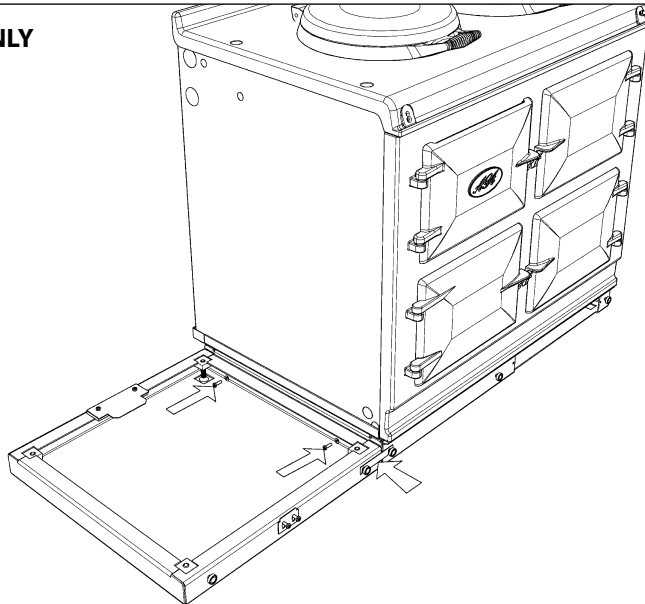

Fig. 10.5
8. Attach Module plinth to the AGA R7/eR7 plinth using 2x M6 screws and washers provided (See **Fig. 10.5** or **Fig. 10.6**). Slide front jointing bracket into place over two adjacent magnets, locking the two appliances together.